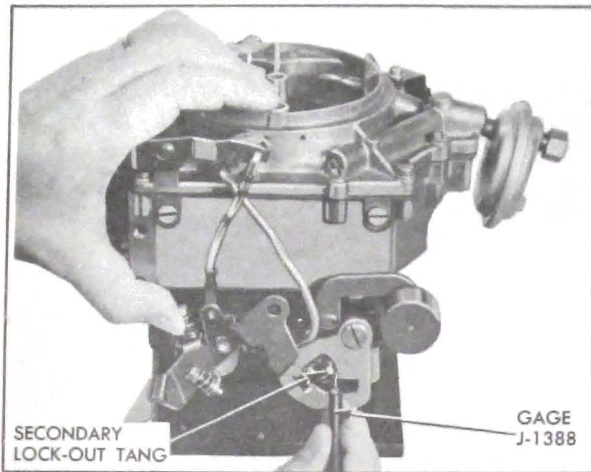

Figure 3-85—Secondary Contour Adjustment
7. Fully open choke valve so that fast idle cam falls to its lowest position. Then open throttle so that secondary lock-out tang follows contour portion of fast idle cam. With choke held wide open, check clearance between lock-out tang and contour portion of cam using .030" end of Gauge J-1388. See figure 3-85.